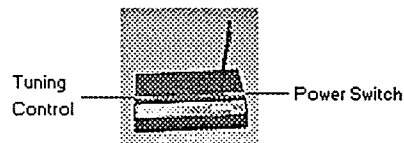

Fig. 5.8 UHF Receiver
5.1.8. Turn on the power to both the UHF receiver and the TV/VCR combination. The UHF receiver is turned on by pressing the POWER SWITCH in the right front corner of the top of the unit. The location of this switch may be seen in Fig. 5.8.